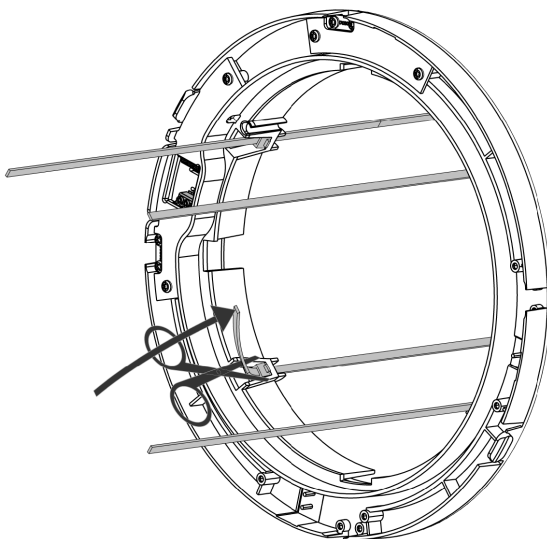
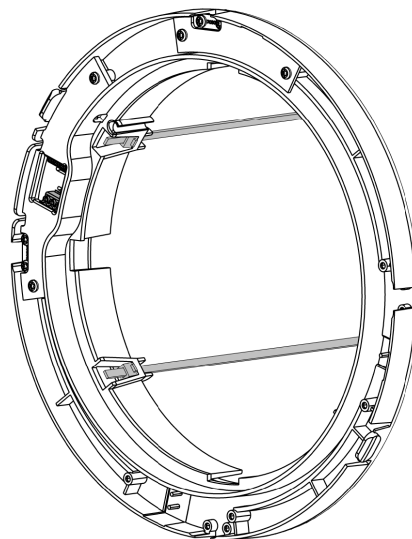

Figure 24 - Bend and cut the other strips
Figure 25 -The internal wall cover is assembled
5. Bend the end of each of the mounting strips from the outside hood to allow cutting off the unnecessary length within the "funnel" of the wall covers, see Figure 24 and Figure 25.